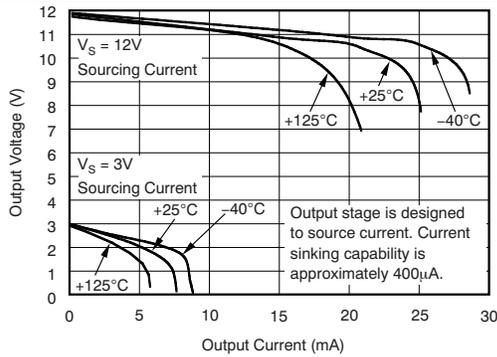

Figure 8. Positive Output Voltage Swing vs Output Current
(2) Total output error includes effects of gain error and  $V_{OS}$ .
(3) Linearity is best fit to a straight line.
(4) For details on this region of operation, see Accuracy Variations section in Device Functional Modes.
(5) See Figure 8.
(6) Specified by design.